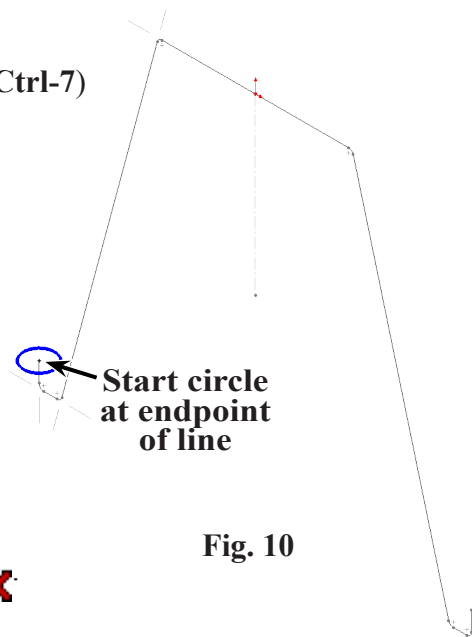

Fig. 10
Step 4. Click **Circle**  (S) on the Sketch toolbar.
Step 6. Draw a **circle top endpoint of line**, Fig. 10.
Step 7. Click **Smart Dimension**  (S) on the Sketch toolbar.